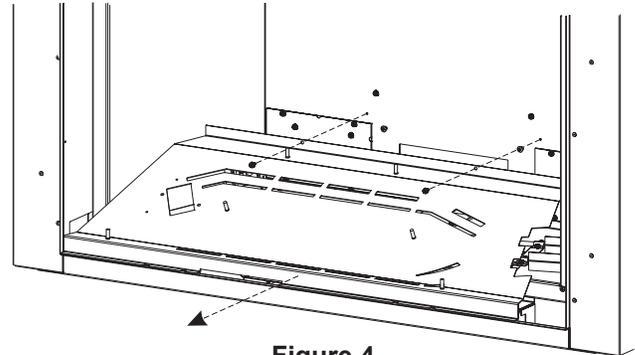

Figure 4
5. Remove (2) screws holding burner base in place. Lift burner base out of firebox. **See Figure 4.**